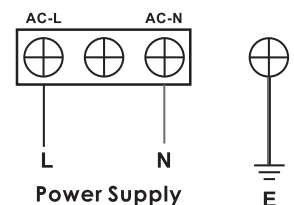

Figure 1
- Either wire may attach to either terminal. As shown in Figure 1.